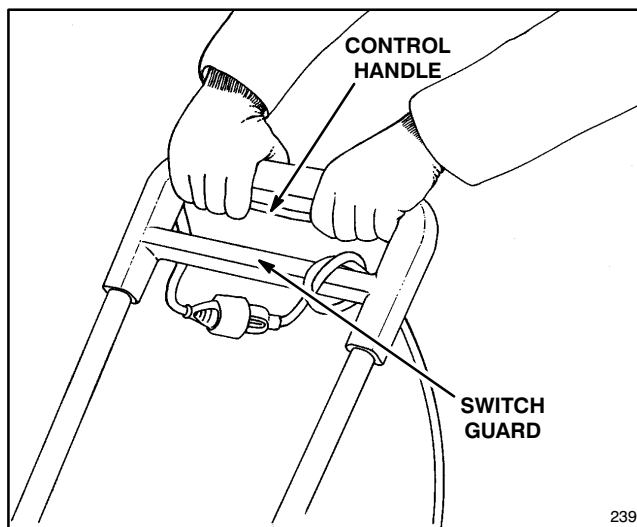

Figure 4
9. To prevent disconnection of snowthrower cord from extension cord during operation, tie extension cord to switch guard before connecting to snowthrower cord; refer to page 4, figure 4 for proper procedures.
1. Tie the extension cord to the switch guard before connecting to the snowthrower cord. This prevents separation of the cords during operation (Fig. 4).
To start rotor, make sure key is installed, and squeeze the control handle. To stop, release the control handle (Fig. 4).
1. Squeeze the control handle to start the rotor (Fig. 4). The depth and weight of the snow governs the forward speed.